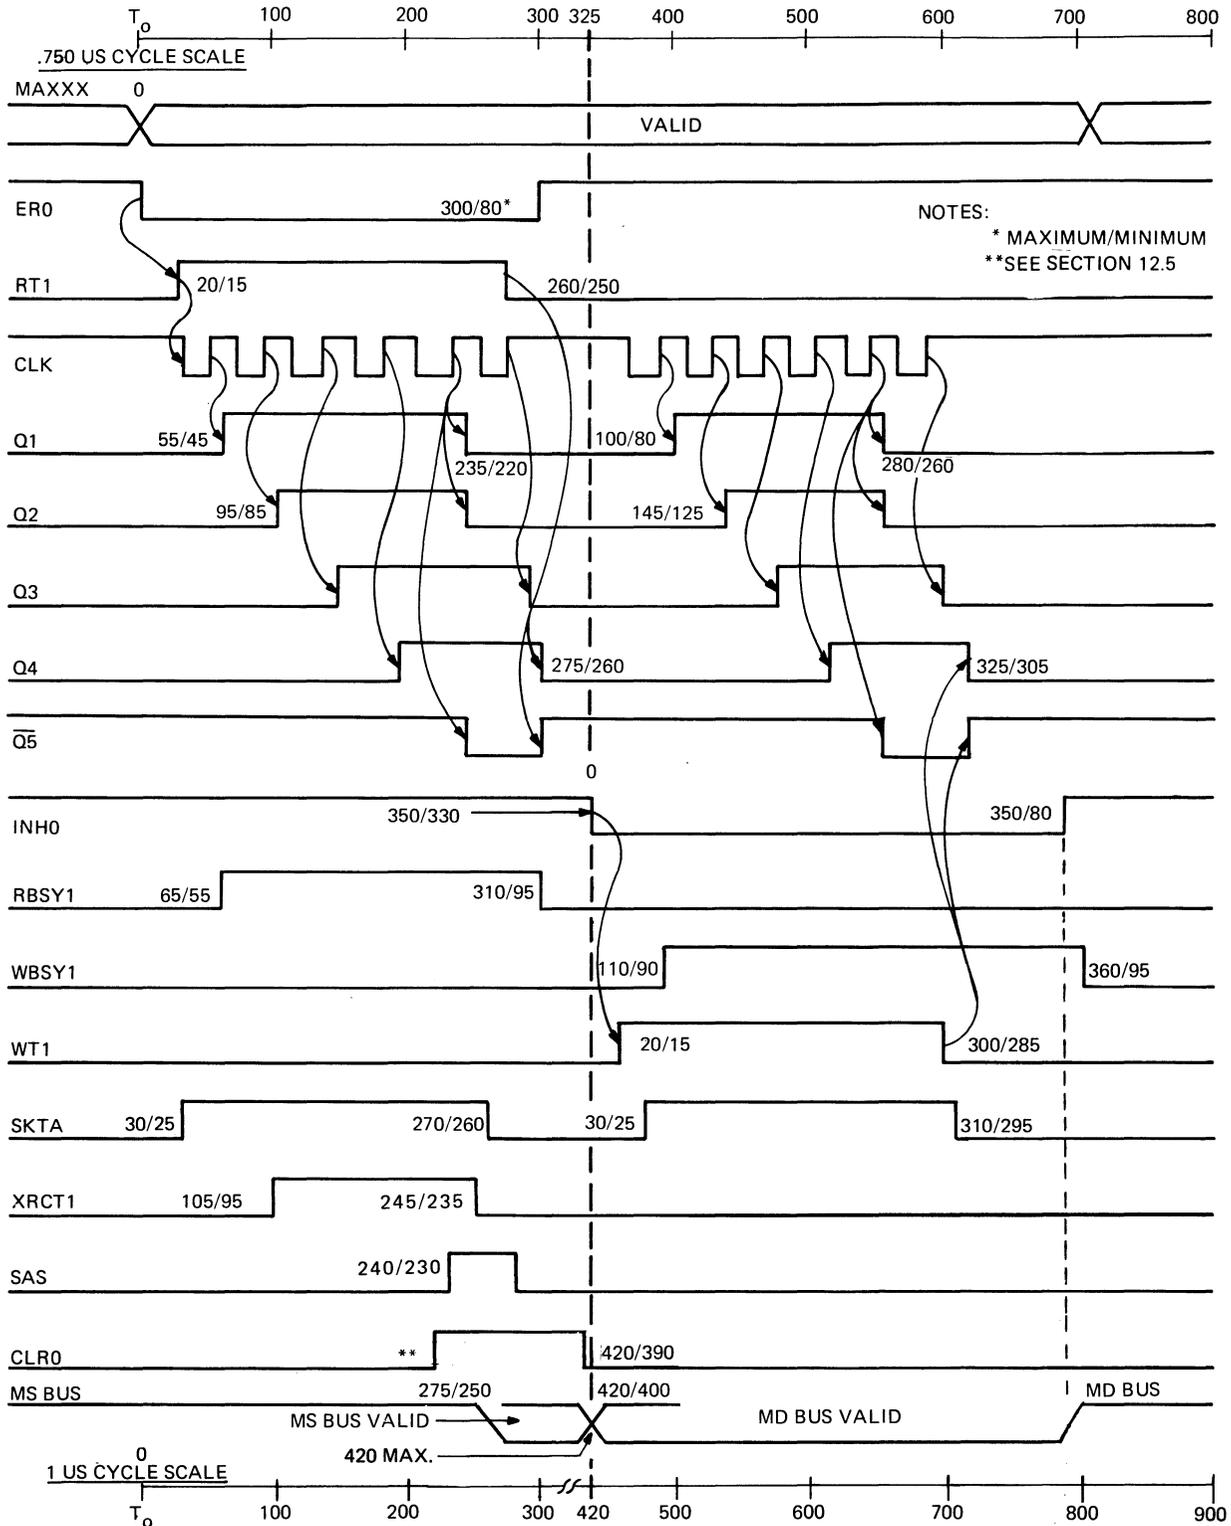

Figure 5. Timing Diagram
Timing is shown in Figure 5. ER0 initiates the Read phase and INH0 initiates the Write phase of a memory cycle. A counter, driven by a delay line oscillator, is used to generate the timing intervals during which the X and Y drive, as well as the sink and current switches are activated. Other timing such as Inhibit pulse width (INHT11 and INHT21) (11L6) and sense strobe pulse width (SAS11 and SAS21) (11L7) are controlled by one-shots. The timing diagram shown in Figure 5 is for both the 750 and 1000 nanosecond cycle options. INH0 for 750 nanosecond cycle occurs no later than $T_0 + 350$ nanoseconds, while for 1 microsecond operation, INH0 occurs no later than $T_0 + 420$ nanoseconds. In either case, during a Read-Restore operation, the MS Bus is valid from $T_0 + 275$ nanoseconds to $T_0 + 420$ nanoseconds, and during a Clear-Write operation, the MD Bus is valid at the start of INH0 and thereafter for a minimum of 300 nanoseconds.
Refer to Sheet 11 of Functional Schematic 35-473D08 and Figure 5. The Read phase is initiated when the unit select line at Gate A138-2 (11D7) is high and ER0 (11A2) is set true.
3. Compare the timing of RT1, WT1, INHT11, INHT21, INHR1 and XRCT1 with the timing diagram, Figure 5. If it is not the same (± 10 nanoseconds), their respective one-shots are defective. If XRCT1 is incorrect the problem may be with delay line driver A147 (11K4) or receivers A159 and A154 (Sheet 12).